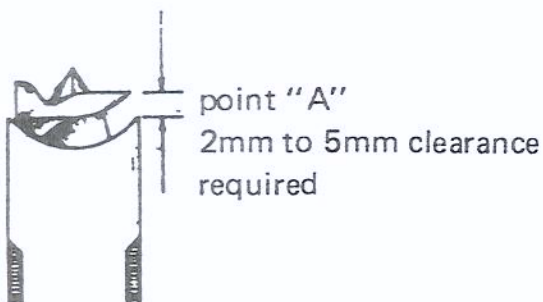

Fig. 9
6. Use the key to open the drill chuck and pass the drill bit through the hollow square chisel and into the chuck, then set it to give clearance "A" as shown on drawing Fig. 9.